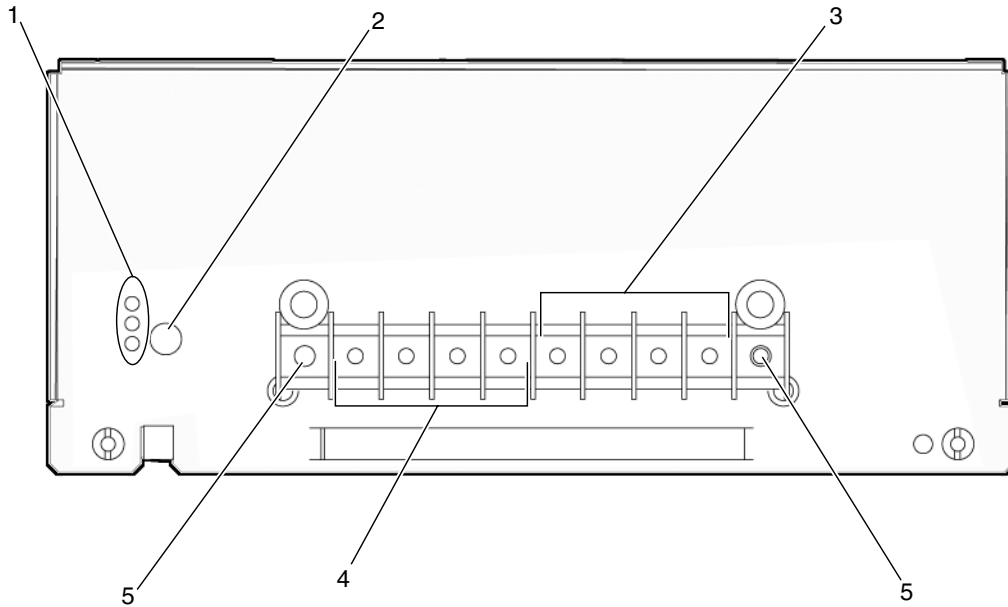

FIGURE 2-2 Power Entry Module Terminal Posts
4. Remove the cables from the terminal posts on each power entry module (FIGURE 2-2).
TABLE 2-1 Legend for FIGURE 2-2
4. Attach the cables to the appropriate terminal posts on each power entry module (FIGURE 2-2).